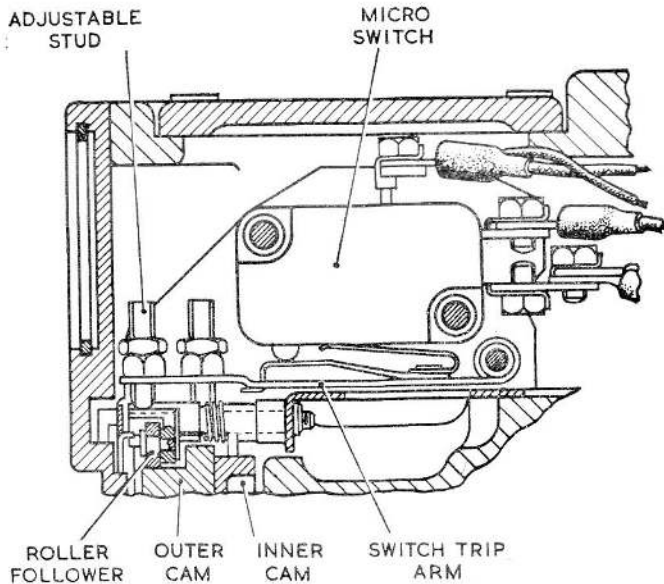

Fig. 3. Limit switch operating mechanism
3. The limit switch cams are provided with roller followers (fig. 3) situated at one extremity of a short pivoted arm. The other extremity of the arm bears against an adjustable stud attached to the switch trip arm.